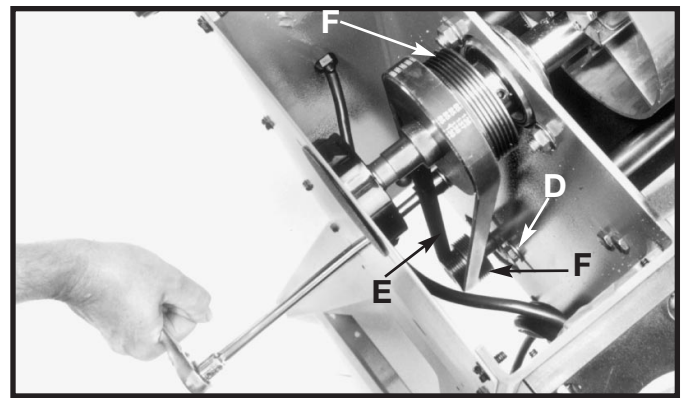
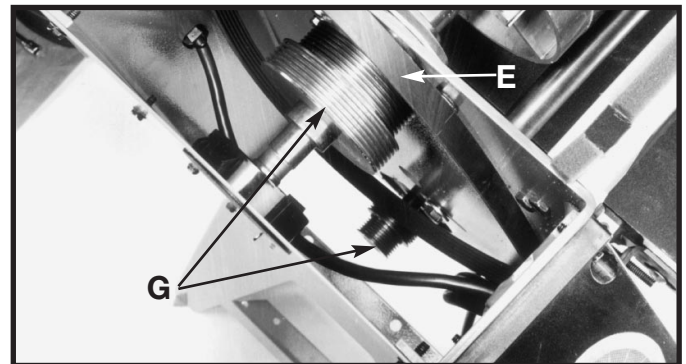

Fig. 26
Fig. 27
3. Use a 9/16" socket with an extension (not supplied). Place it in one of the two holes where the hole plugs were removed. Loosen one hex bolt, then the other to relieve tension on the motor. (One is shown at (D) Fig. 26). Apply upward pressure on the motor (located under the machine) to relieve tension on the belt. Replace or change the belt positions on the pulleys. **IMPORTANT:** When the belt is on the inner pulleys (F) Fig. 26, the sanding drum speed is 3300 SFM. When the belt is positioned on the outer pulleys (G) Fig. 27, drum speed is 2210 SFM. **NOTE:** Position the poly-v drive belt on the pulleys correctly to provide maximum performance with minimal belt wear.